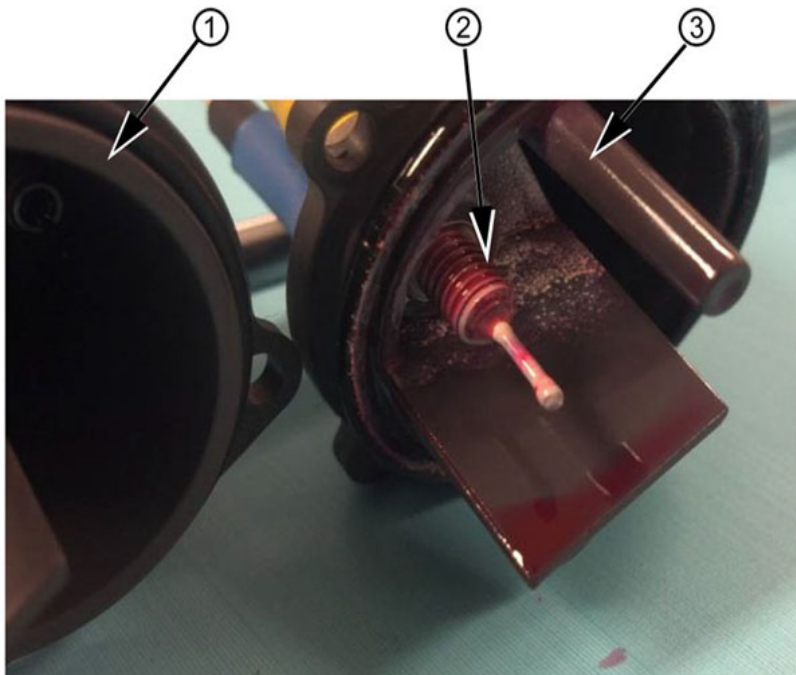
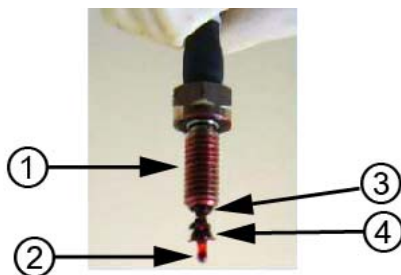

Figure 4 Thermistor inside reservoir top
Figure 5 Migrated material on the thermistor tip. Thermistor removed from the reservoir for clarity; it is not necessary to remove the thermistor.
Carefully turn the upper half of the reservoir so that you can see the inside. The thermistor sensor is a thin glass tube that descends into the reservoir space. See Figure 4.
The thermistor shown in Figure 4 has a uniform coating of ink residue. The thermistor may also be found with what appears to be a large blob of material on the tip. This material is excess epoxy that has broken free of the seal at the base of the thermistor and migrated down the tip. See Figure 5.
- 3. If migrated epoxy was found (see Figure 5), carefully remove the epoxy from the thermistor tip.